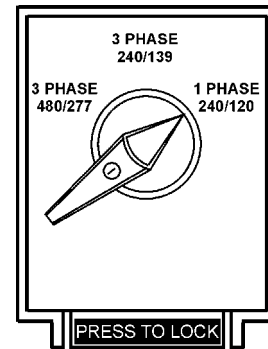

Figure 38. Voltage Selector Switch
1. Place the **voltage selector switch** in the desired voltage position (Figure 38)..